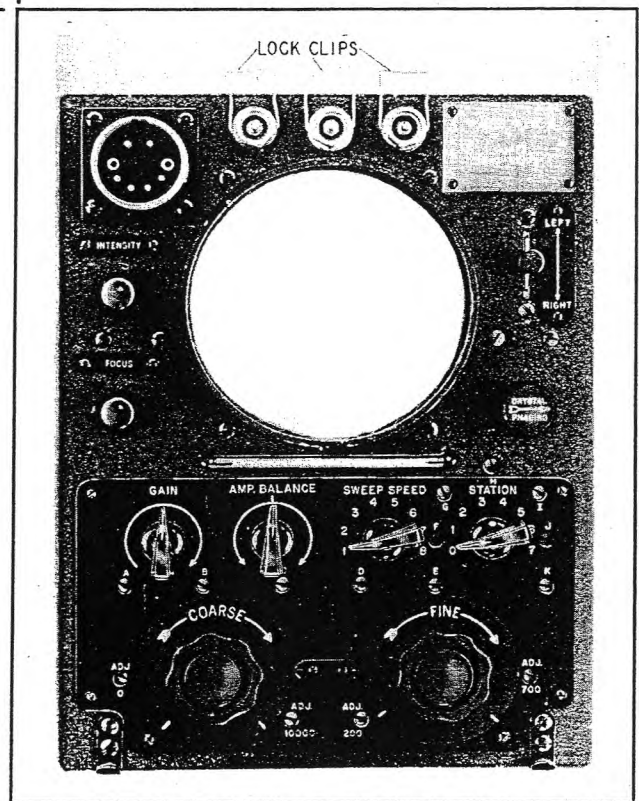
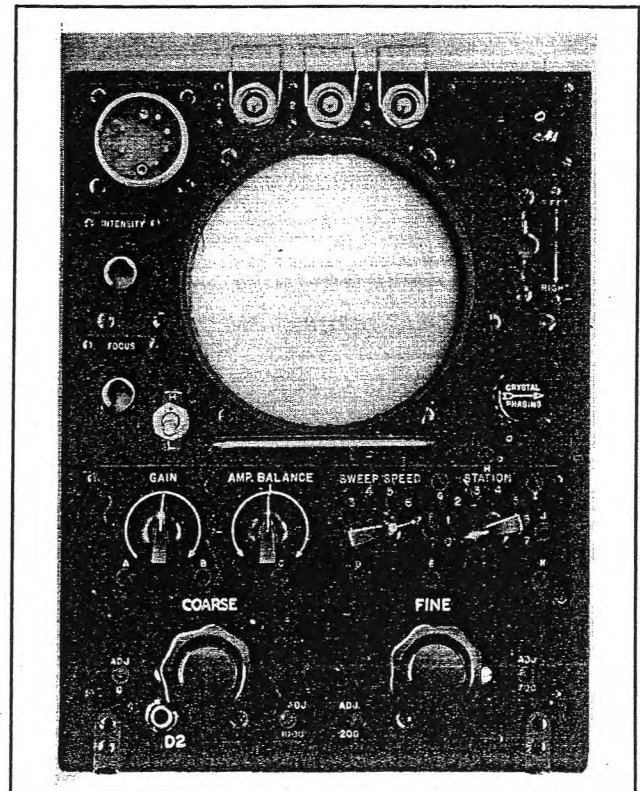

Figure 1-4. Indicator *ID-6/APN-4—Front Panel (Modifications I, II)
Figure 1-5. Indicator *ID-6/APN-4—After Modification in Accordance with Technical Order No. 16-35ID6-21
and "INTENSITY" controls, "LEFT-RIGHT" switch, video receptacle (coded red, numbered 1), amplitude balance receptacle (coded yellow, numbered 2), gain receptacle (coded blue, numbered 3), indicator input receptacle marked "RECEIVER," and screw driver adjustments for alignment of stations "A to D" inclusive, and stations "E to K" inclusive, "COARSE ADJ. 0" and "ADJ. 10,000," and "FINE ADJ. 200" and "ADJ. 700." (See fig. 1-4.) In addition to the above panel controls and adjustments, the modified versions of Indicator *ID-6A/APN-4 have a "PRR-H-L" switch and an additional counter adjustment "D2." (See fig. 1-5.) All models of the indicator are crystal-controlled precision instruments, the various circuits of which primarily affect the func-
c. RADIO RECEIVERS *R-9A/APN-4 AND *R-9B/APN-4. (See figure 1-5.)—Each receiver is housed in a black wrinkle-finish metal case and is held in place by a Dzus fastener in the rear panel. Holes in each side of the case provide ventilation and access to the low-voltage power-supply control-potentiometer R-121. Mounted on the front panel are the four-position "CHANNEL" switch; "PWR. ON-OFF" switch; "FILTER-OUT-IN" switch; "80V.-115V. LINE VOLTAGE" switch, "4 AMP.-250V." fuse and a spare fuse, a jeweled pilot lamp, "INDICATOR" power-supply receptacle; "INPUT SUPPLY" receptacle, and four coaxial connectors marked "1" (video, coded red), "2" (amplitude balance, coded yellow), "3" (gain control, coded blue), and "ANT." (coded green).